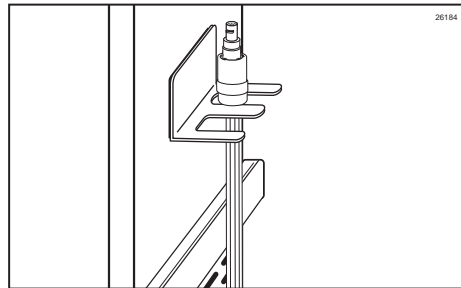

Figure 23
3. Hang the 9-Tube Assembly on the Accessory Hanging Bracket. (See Figure 23.)